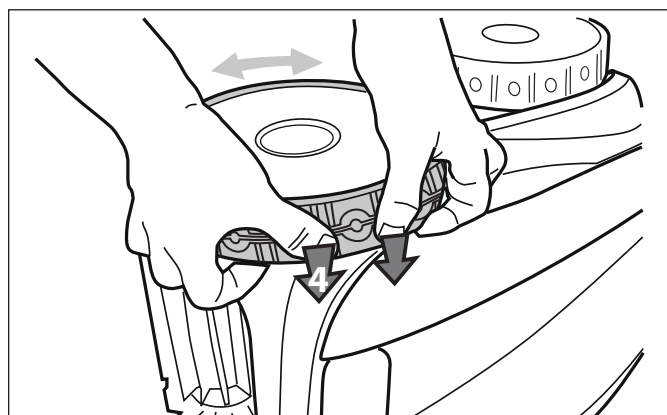

Figure 40. Push the Tire into Place on the Wheel
6. Push and position the rib of the inner side of the tire in the groove of the wheel. Refer to Figure 40. If needed, turn the wheel gently to help with installation.